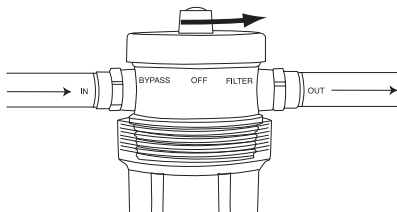

Figure 5
- Turn filter head valve to “FILTER” mode (see Figure 5) and slowly turn on main water supply and check for leaks. Run water for 5 minutes with an open faucet to flush out air.